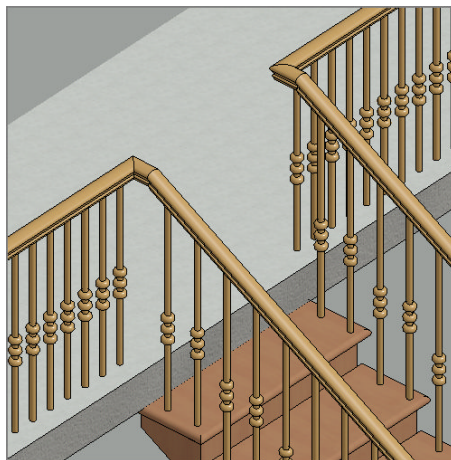

FIGURE 10.74: Both railings are in place.
7. Repeat the procedure on the other end (see Figure 10.74).